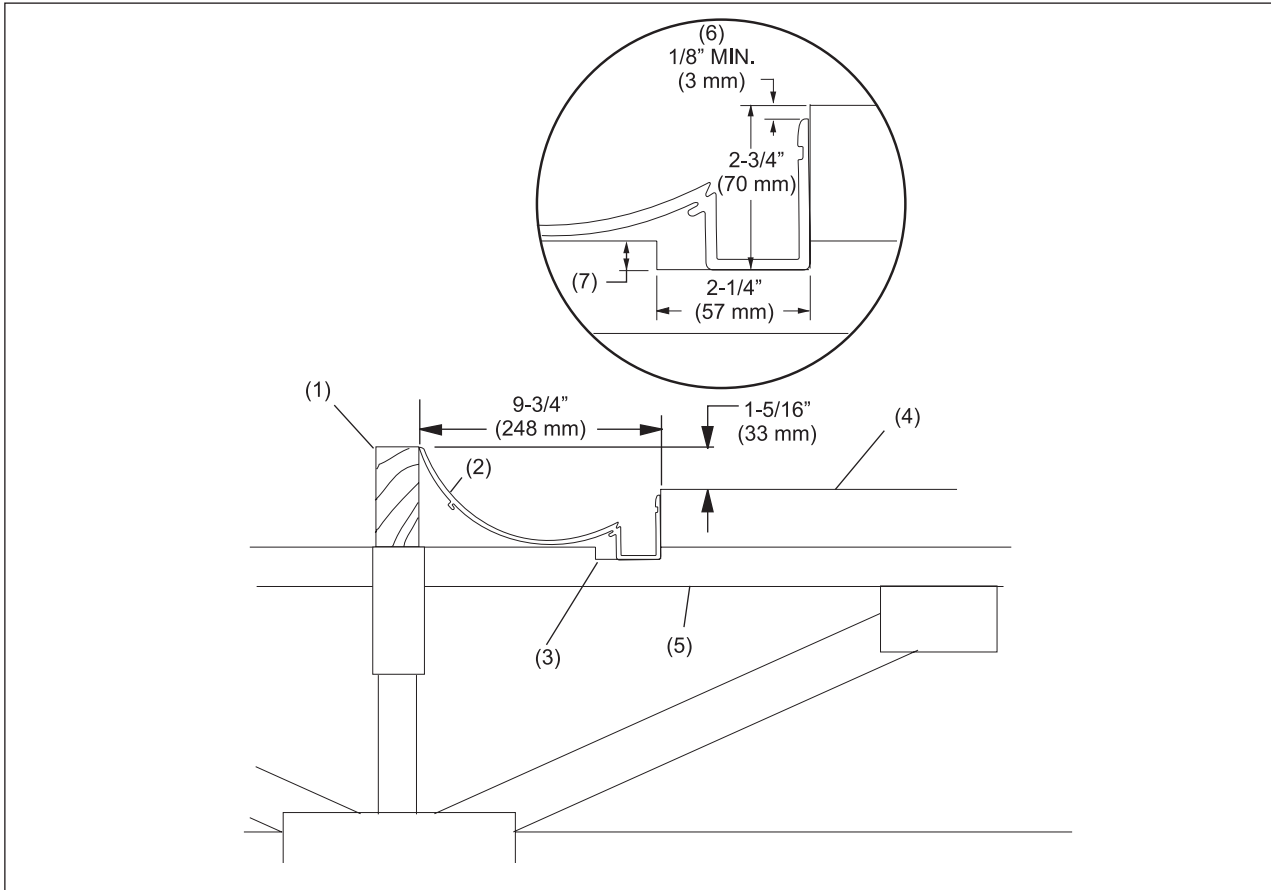

Figure 15. Route Top of Trusses as Required
1. Using a power router or equivalent tool, remove a 2-1/4" (57 mm) x 2-3/4" (70 mm) maximum depth section on top surface of truss, parallel with the outside edge of the lane. Refer to *Figure 15*.